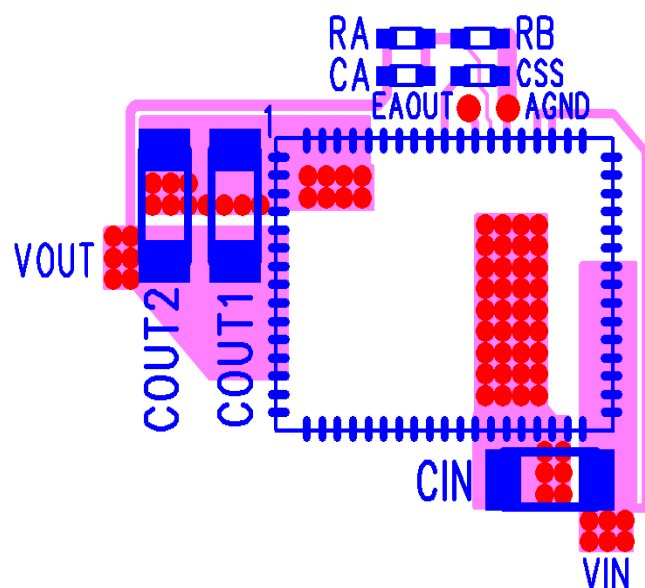

**Figure 6: Example of synchronizing multiple EN5394QIs in a daisy chain with phase delay.**
Electrical Characteristics table. See Figures 6 and 7 for an example of using phase delay.
The EN5394 can be synchronized to an external clock source or to another EN5394 in order to eliminate unwanted beat frequencies. Furthermore, two or more synchronized EN5394's can have a programmable phase delay with respect to each other to minimize input voltage ripple and noise. An example of synchronizing three EN5394's with approximately equal phase delay between them is shown in Figures 6 and 7. The lowest allowable value for the S\_DELAY resistor is 10kΩ.
**Figure 7: Example of a possible way to synchronize and use delays advantageously to minimize input ripple.  $R1 \sim 39k\Omega$ ,  $R2 \sim 33k\Omega$ . (Refer to Figure 6 for  $R1$  and  $R2$ .)  $R3$  does not matter in this case.**